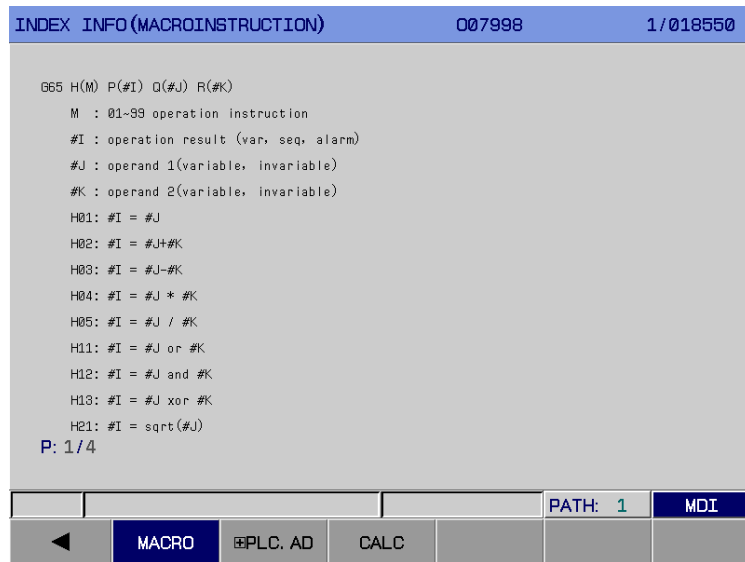

Fig.3-10-7
6. Macro page In <HELP> page, press soft key **【MACRO】** to enter this page, as is shown in Fig.3-10-7: